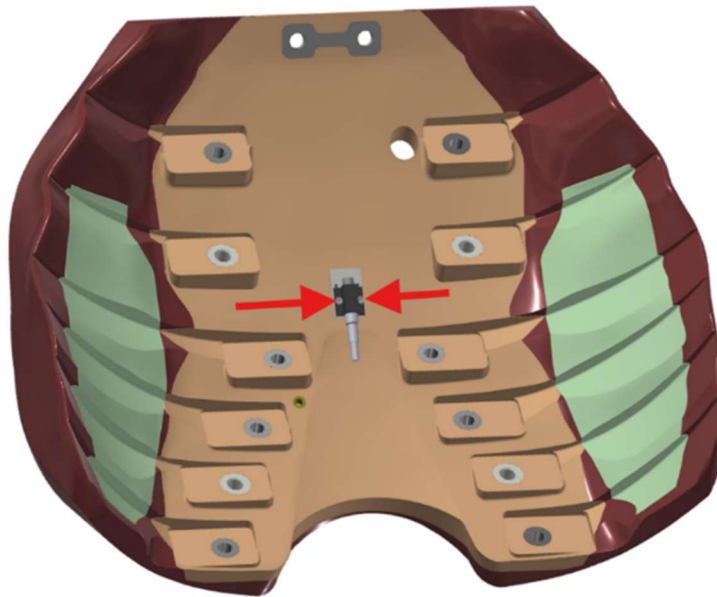

Figure 5-65. Attach one Uniaxial Piezoresistive Accelerometer (SA572-S4) to the back of the Sternum flesh (474-3730-A)
- 5.3.30 Attach one Uniaxial Piezoresistive Accelerometer (SA572-S4) to the back of the Sternum flesh (474-3700) with two M1.4 X 0.3 X 3 SHCS (Figure 5-65).